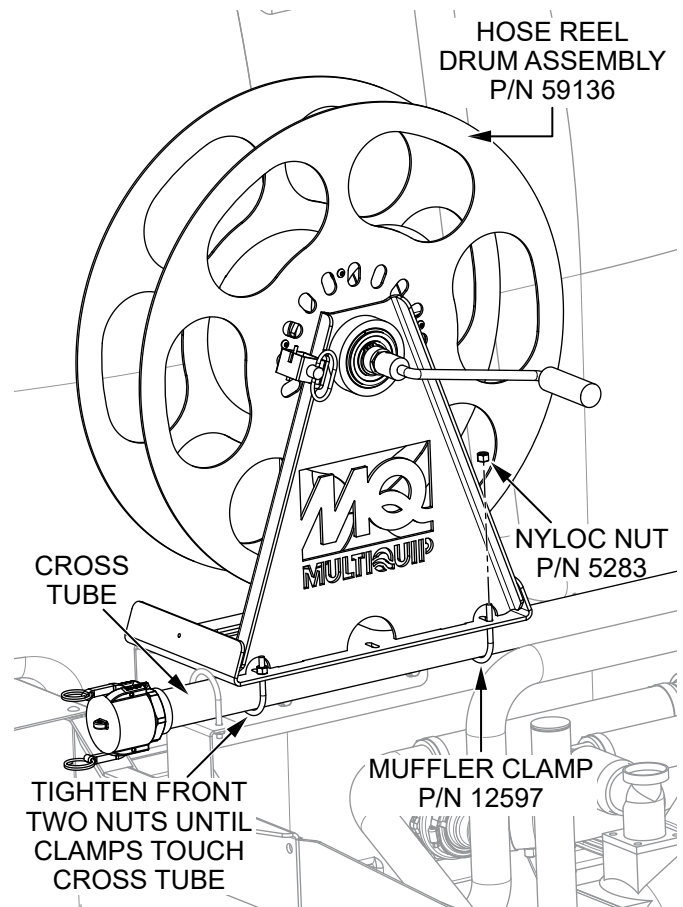

Figure 7. Secure Hose Reel Drum Assembly To Cross Tube
6. Secure the **hose reel drum assembly (P/N 59136)** to the **cross tube** as shown in Figure 7 using the **two muffler clamps (P/N 12597)** and **four nyloc nuts (P/N 5283)**.
- a. Tighten the front nyloc nut (Figure 7) on each muffler clamp until each clamp is touching the bottom of the cross tube.